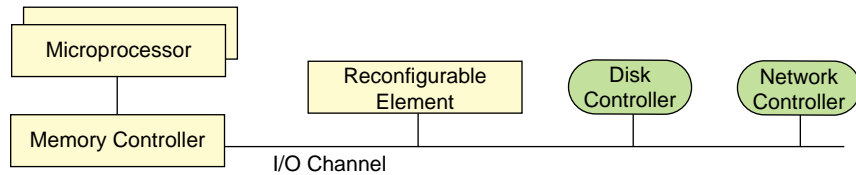

Figure 1-1 Reconfigurable Computer
Reconfigurable computing is defined as a computer having hardware that can be reconfigured to implement application-specific functions (see Figure 1-1). The basic concept of a reconfigurable computer (RC) was proposed in the 1960s, but only in the last decade has an RC been feasible. RC systems combine microprocessors and programmable logic devices, typically field programmable gate arrays (FPGAs), into a single system. Reconfigurable computing allows applications to map computationally dense code to hardware. This mapping often provides orders of magnitude improvements in speed while decreasing power and space requirements.